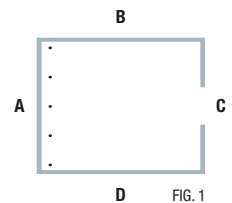
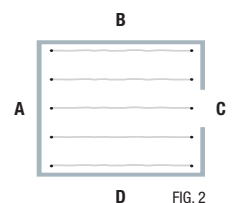

FIG. 1
FIG. 2
- 2 Start, usually at the point furthest from the doorway (wall A), by measuring out the perimeter centres (Fig. 1). For example, for the C40 system, mark out every 400mm to give the batten centres. Mark out the perimeter centres on the opposite wall (wall C) and, using a chalk string line, ping or mark between the matching marked points (Fig. 2).